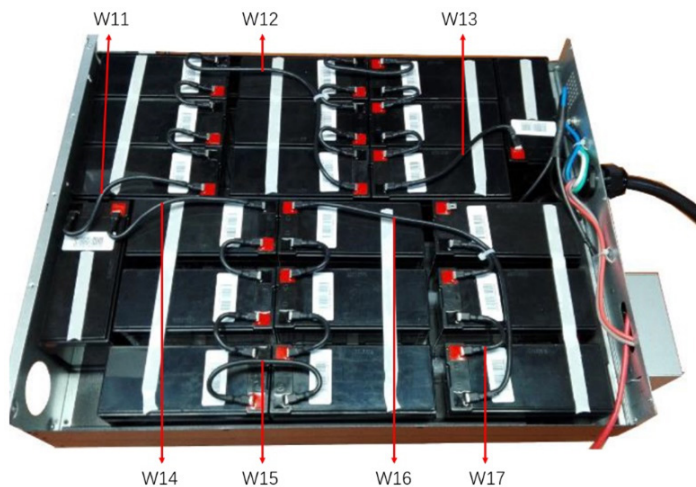

Fig 2-3
3. Conectati bateria cu W11, W12, W13, W14, W15, W16, consultati Fig 2-3: